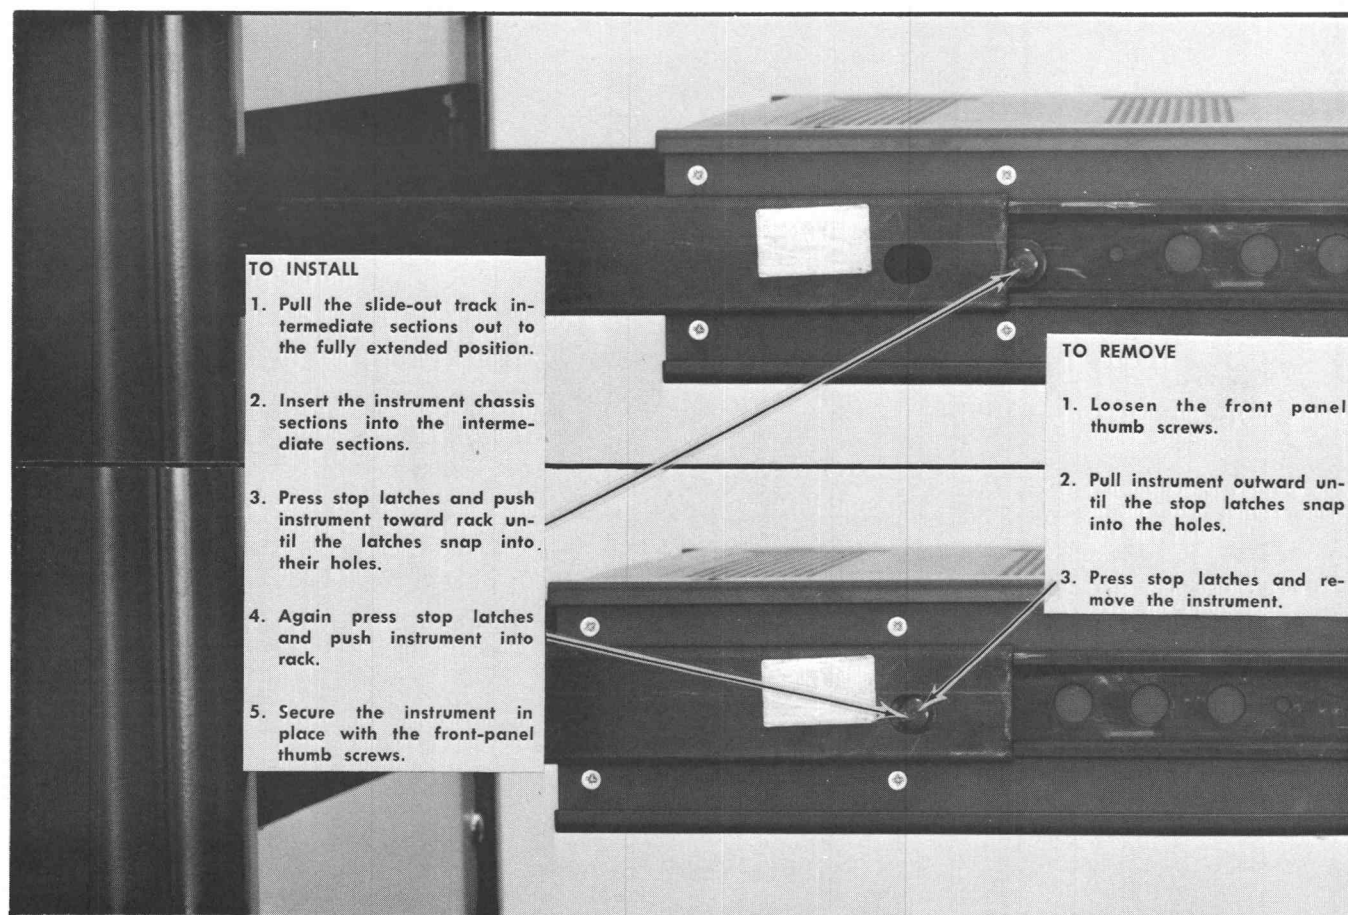

Fig. 7-7. Installing and removing the instrument.
1. Insert the instrument into the rack as described and as shown in steps 1 through 4 of Fig. 7-7 installation procedure.